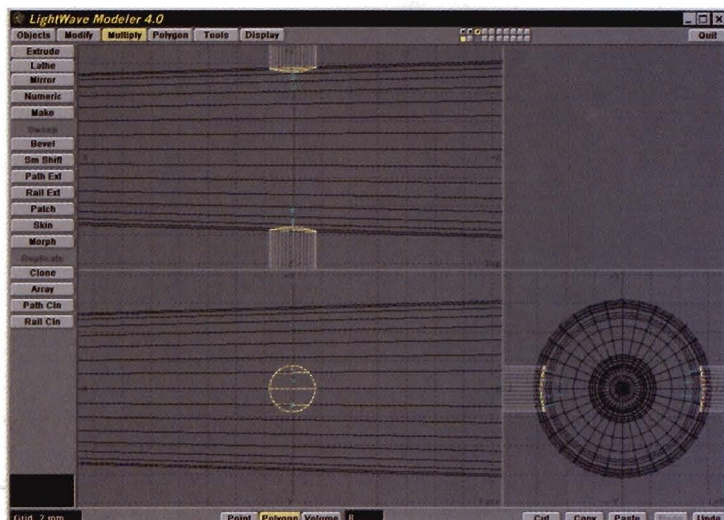

Figure 3
need to perform another Boolean Operation, just as we did earlier. Hold down the Alt key and press 1 for layer 1. Now hit (B), select Subtract and then OK. Hold down the right mouse button and select both ends of the rods where Layer 1 cut polygons away (Figure 3), then hit (z) to delete the unwanted polygons. Finally hit (x) to Cut the rods and 1 for layer 1, then hit (v) for Paste into layer 1.